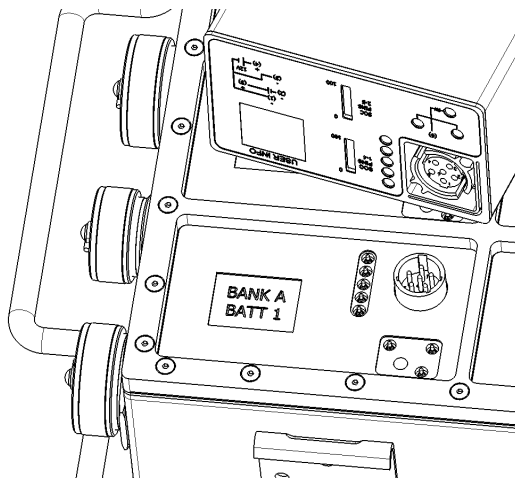

Figure 3-3 Battery Orientation
2. Ensure battery is completely seated with a strong push. See figure 3-3 for guidance.